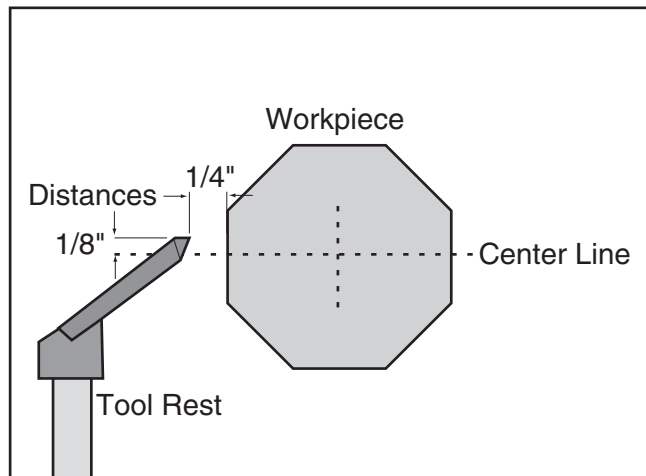

Figure 15. Tool rest set $\frac{1}{8}$ " above the center line and $\frac{1}{4}$ " away from workpiece.
12. Position the tool rest approximately $\frac{1}{4}$ " away from the workpiece and approximately $\frac{1}{8}$ " above the center line, as shown in **Figure 15**.